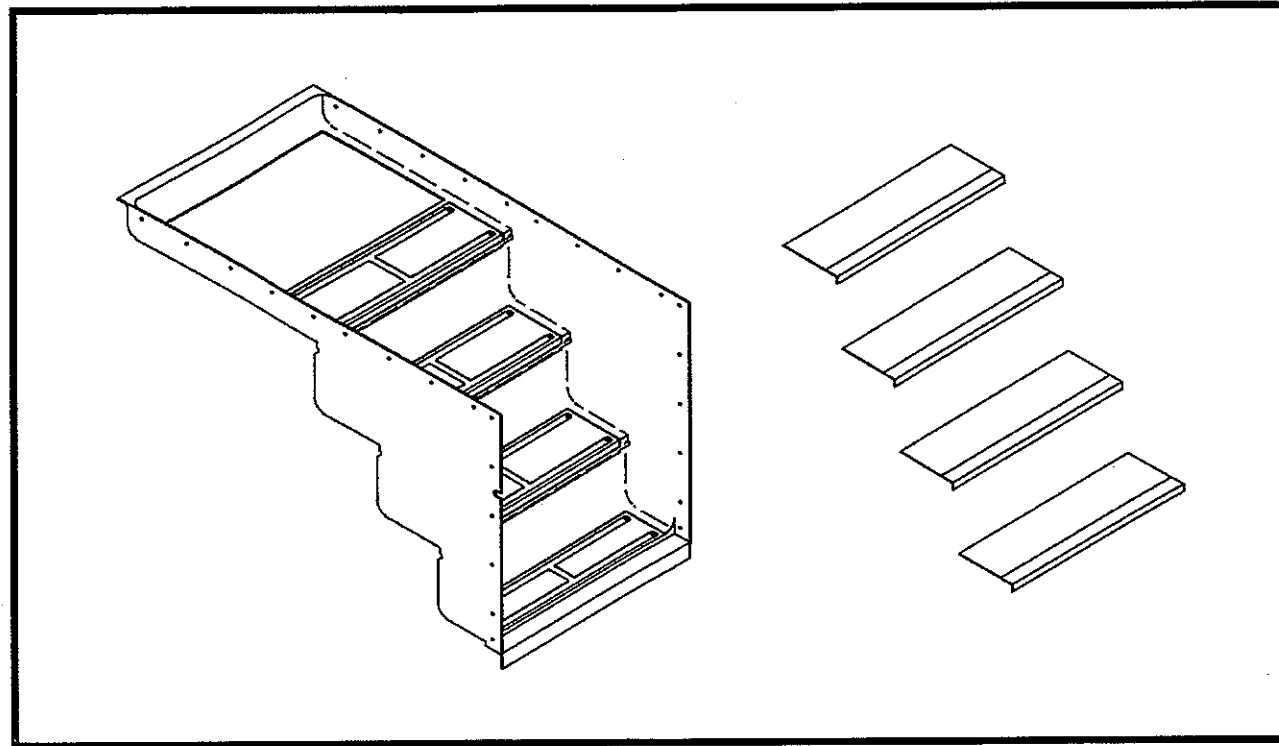

Figure 1—Stepwell and Steptread
4. Remove steptread. (See Figure 1—Stepwell and Steptread.)